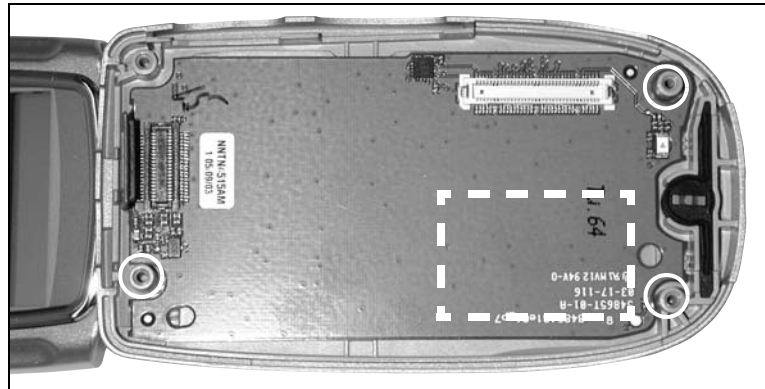

Figure 7-20.
3. Apply adhesive pad in same position as previous pad. Ensure pad lies flat for even and uniform reattachment of boards (see Figure 7-20)